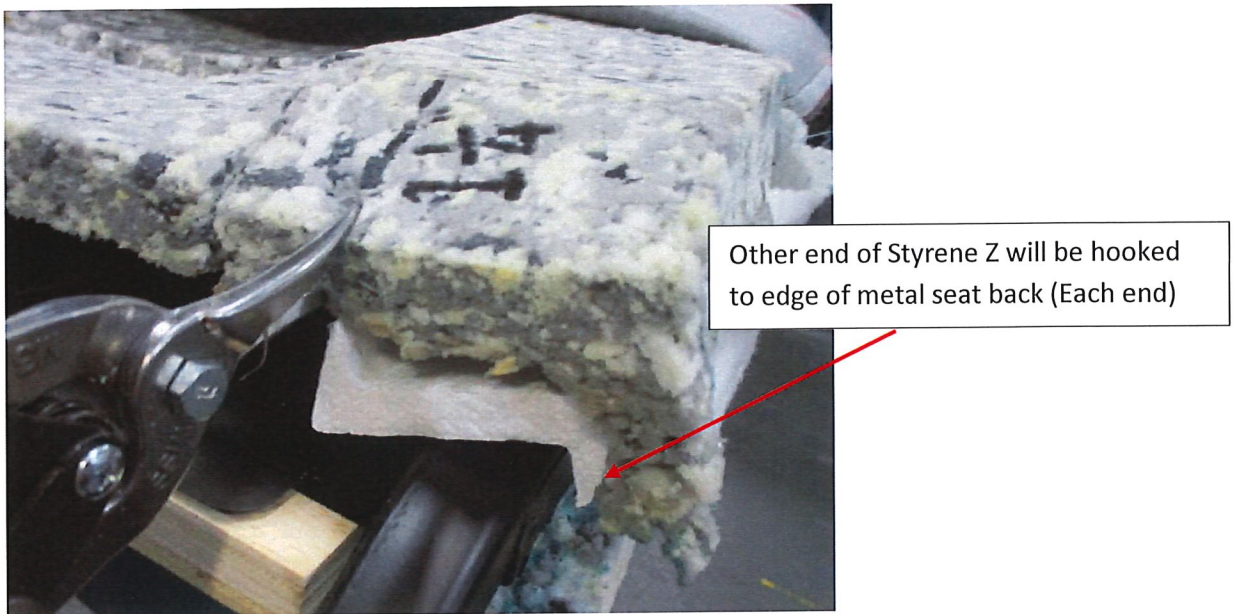

Figure 12: Pulling the foam over the styrene
17. Make sure that other end of Z is installed as shown in **Figure 12**